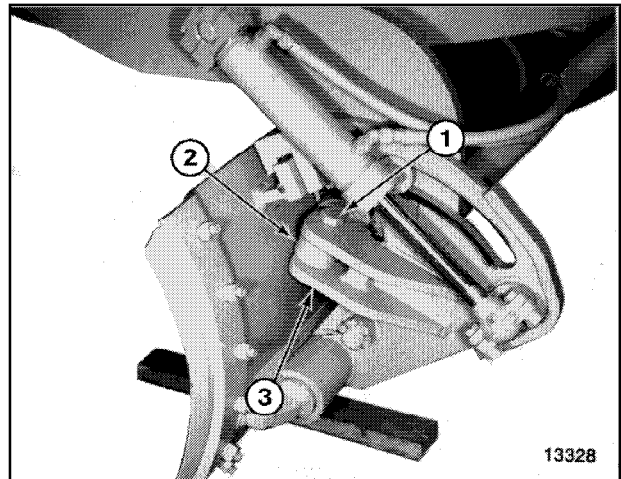

Figure 23
- Remove self-locking nut and bolt (1, Figure 23) from base end of cylinder (2) and moldboard (3). Remove cylinder from circle assembly.